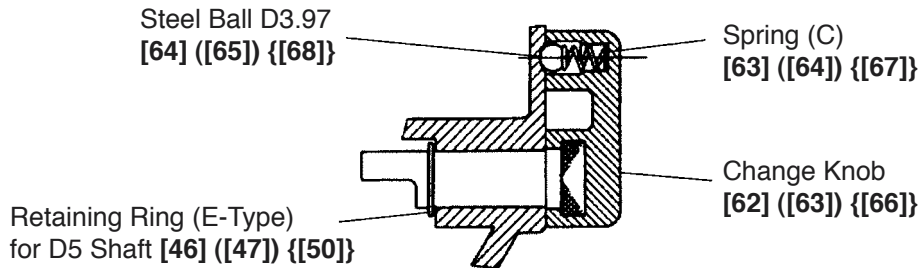

Fig. 15
- (1) Mount Spring (C) [63] ([64]) {[67]} and the Steel Ball D3.97 [64] ([65]) {[68]} into the Change Knob [62] ([63]) {[66]} as shown in the figure below. (Fig. 15)